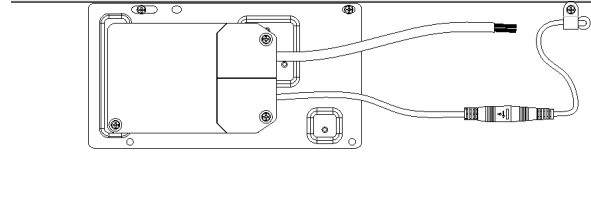
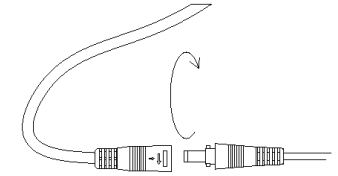

Fig.4a
Fig.4b
**Step 2:** Using the mounting bracket available on the back of the LED Panel, securely mount the LED Driver, Fig.4a. Connect the LED Driver using interlocking power connectors, Fig.4b.